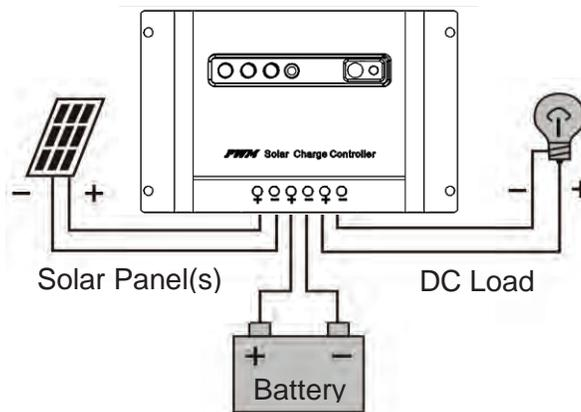

Figure 1. Wiring diagram
5. After all connections are made as shown in **Fig. 1**, the charge controller will now be providing charge to your battery or batteries. To test the system for proper connections, press the SET button on the charge controller until you see number **6**. (6 "Dot") or **7**. (7 "Dot"). See **Table 1** for description of each work mode.